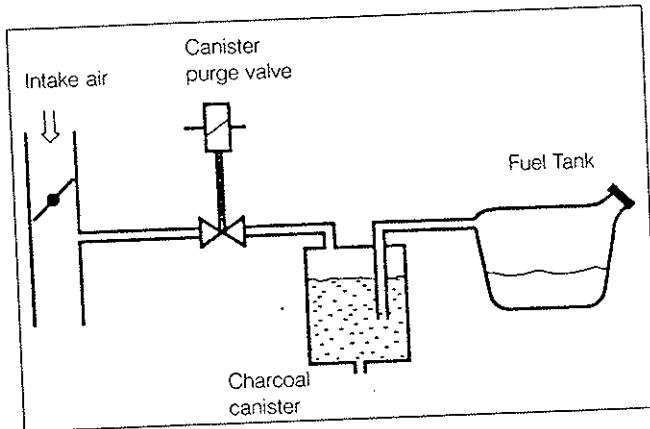

Fig. 4-15. Motronic ML3 controls canister-purge valve to admit fuel vapors to the intake manifold without affecting adaptive system.
**Canister Purge Control.** You may know that the evaporative fuel control system stores fuel vapors in a charcoal canister to be drawn into the running engine upstream of the throttle, as shown in Fig. 4-15. Motronic ML3 considers the adaptive function in the canister-purge control in the control unit. The air-fuel mixture is controlled to lambda 1 by the lambda sensor system as the control unit slowly operates the canister-purge valve. During any purge of the evaporative canister, the adaptive value is forced to neutral by a so-called "forget" function, and the adaptive circuits are turned off. Adaptive control is allowed only when no canister flow is feeding fuel vapors into the manifold. All this adds up to proper emptying of the evaporative fuel vapors without interfering with driveability.